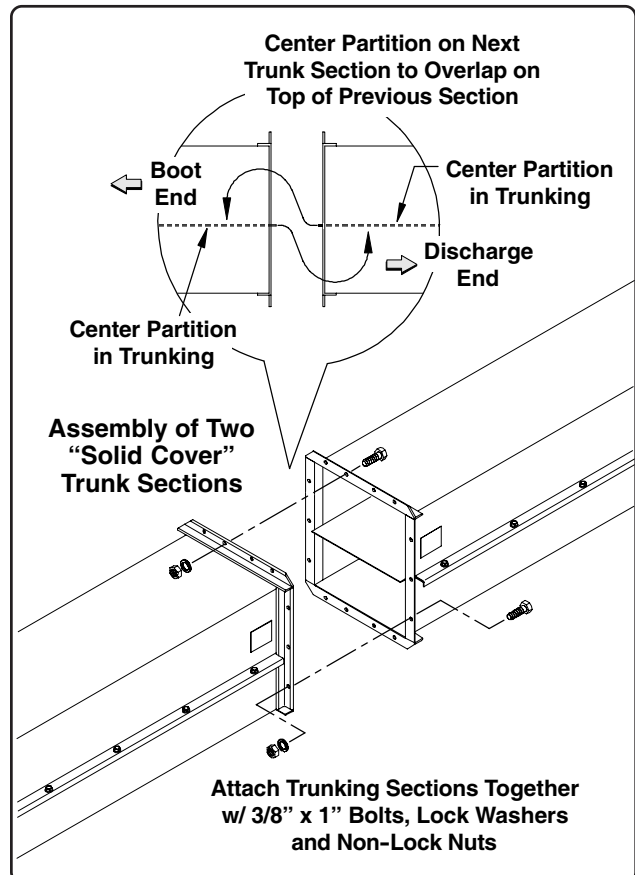

Fig. 7
2. Note the center partition in each of the trunk housings. During assembly, the center partition in the next trunk to be installed will overlap on top of the center partition of the previous section (See Fig. 7). The reason for the overlap is so that the paddles in the upper section (when traveling back to the boot end) will have a smooth transition from trunk section to trunk section.